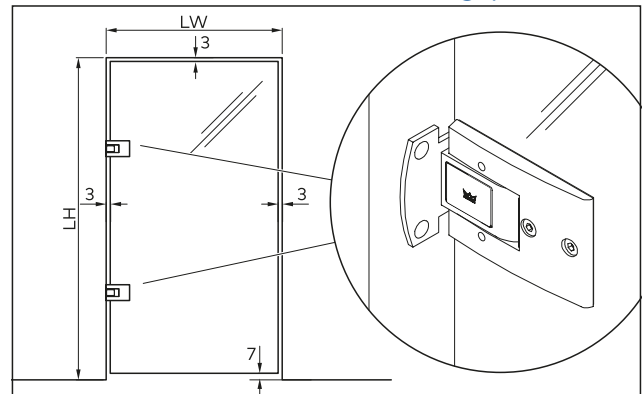

Fig. 39 Gaps for wall mounting with surface mounted mounting plate
1. Place the glass door leaf at the mounting position on wooden blocks or similar objects and align vertically. Observe the gaps (see Fig. 39 on p. 15)